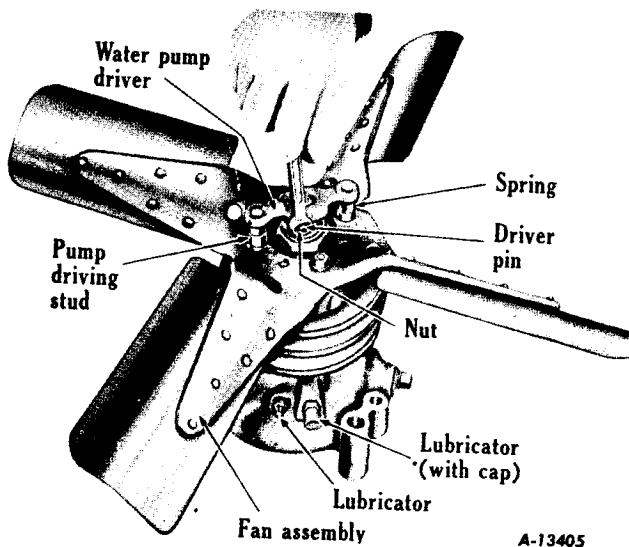

Fig. 15 - Water Pump Driver Removal.
1. Remove the fan and driver assembly (Fig. 15).